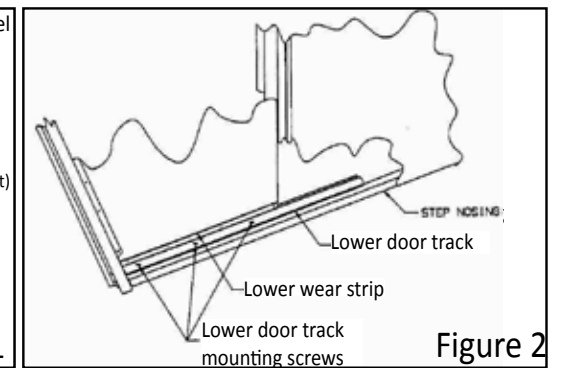

Figure 2
2. Remove all screws that fasten down the lower door track (see figure 2).